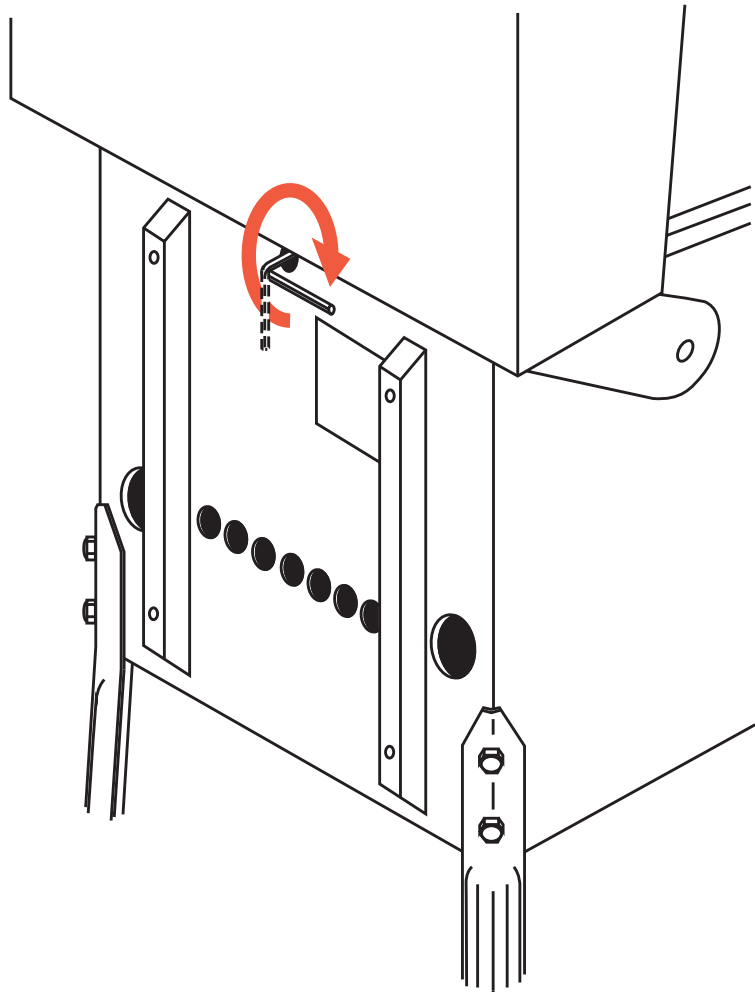

Figure 8. Locking the backbox in the upright position.
8) Locate the “L”-shaped, 5/16” hex key for the backbox Roto-Lock in the loose parts. Insert it into the hole at the base of the backbox and turn it a full 270 degrees CW (see figure 8).